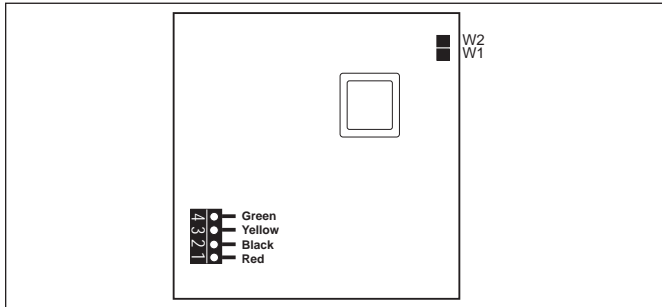

Figure 25. OneTouch PCB - Back View
- Wire the 4-conductor cable to the red, 4-pin terminal bar (see Figure 25). Push the 4-pin terminal bar onto the back of the OneTouch PCB. Place the PCB with LCD and buttons back into the box. Insert the screws and hand tighten. **Do not overtighten**. Snap the Faceplate into place.